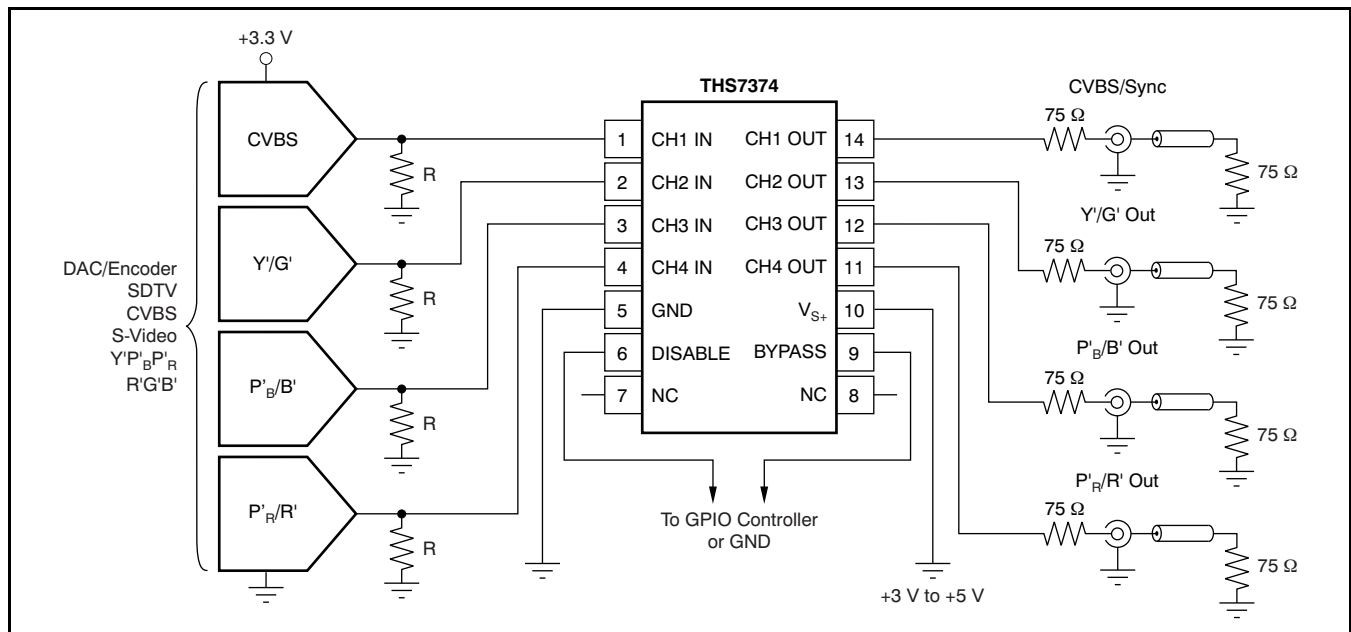

Figure 36. Typical SDTV CVBS/Y'P'B'P'R' Inputs from DC-Coupled Encoder/DAC with DC-Coupled Line Driving
A typical application circuit that uses the THS7374 as a video buffer is shown in Figure 36. It shows a DAC or encoder driving the input channels of the THS7374. One channel is a composite video (CVBS) channel of a standard definition (SD) video system. The other channels are the component video Y'P'B'P'R' (sometimes labeled Y'U'V' or incorrectly labeled Y'C'B'C'R') signals of a 480i or 576i system. These channels could easily be the s-video Y'/C' channels or the R'G'B' channels of a SCART system.